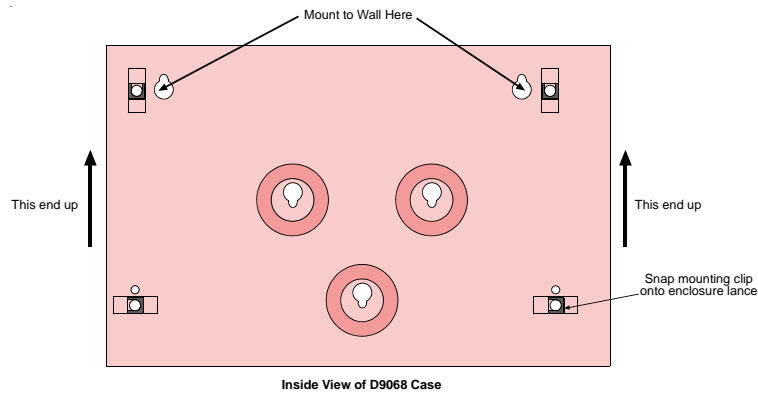

Figure 3: Mounting the D9068 Case to the Wall
2) Use the D9068's case as a template to mark the location of the mounting holes in desired wall. Hang case from wall with appropriate installer-supplied mounting screws. See Figure 3.